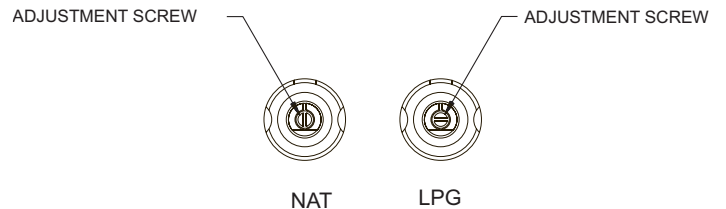

Figure 37
7. The low input adjustment screws are located inside the two valve stems. Use a small screwdriver to turn each adjustment screw clockwise 1/4 turn (90 degrees). When valves are in the "OFF" position, the slot in the adjustment screw should be vertical. **See Figure 37.**